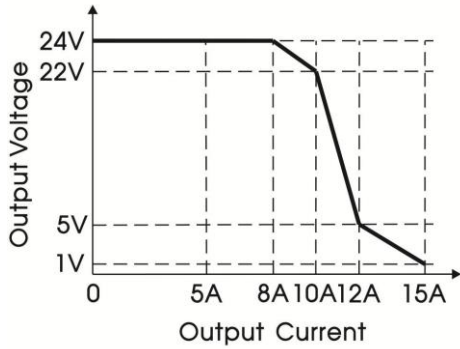

Figure 3
2. Figure 3 shows that the product will enter the overload state when the rated output current increases to 100%-150% $I_o$  (TYP.), and enter the overcurrent protection when the current > 150% $I_o$  (TYP.), and the output voltage will decrease with the increase of the output current. When the output current increases to a certain value, the product will enter the constant current mode;